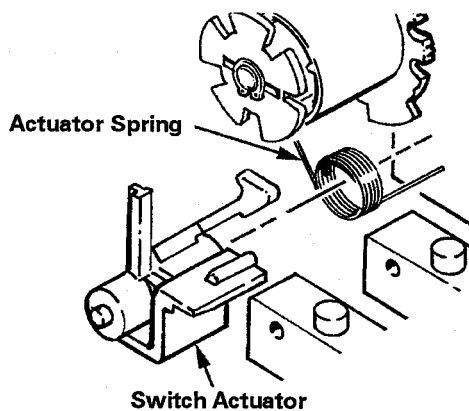

Figure 2-10
10. Remove switch actuator and actuator spring from mounting bracket, *see Figure 2-10.*